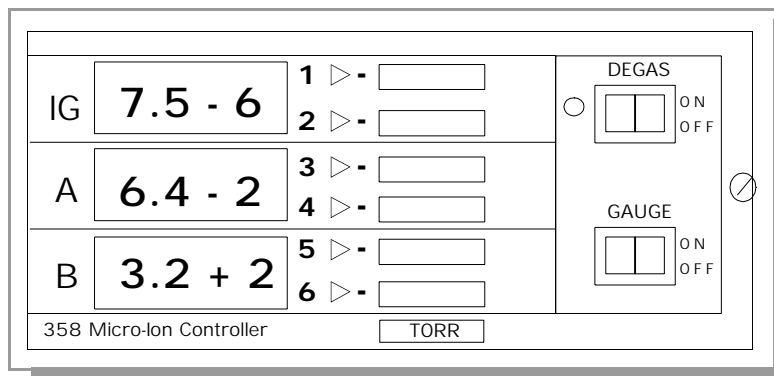

Figure 5-2 358 Controller Front Panel.
2. When the power switch is ON, the Micro-Ion Gauge pressure is displayed on line IG and Convectron Gauge pressures are displayed on lines A and B of the display on the front panel of the Controller (see Figure 5-2). Display formats for the Convectron Gauge pressures are given in Table 5-1 on page 5-2.
4. For manual operation, press the front panel GAUGE momentary rocker switch (see Figure 5-2 on page 5-1). The pressure in Micro-Ion Gauge will be displayed on the IG line of the display in the chosen pressure units.
5. To degas the IG (IG must be on and the pressure within IG must be below 5×10^{-5} Torr), depress the DEGAS momentary rocker switch on the Controller (see Figure 5-2 on page 5-1).
6. When the filament is nearing the end of its useful lifetime or is badly contaminated, the LED indicator next to the DEGAS switch on the front panel will blink during degassing (see Figure 5-2 on page 5-1). This is an indication that the filament emission properties have deteriorated. This may be due to contamination which has temporarily “poisoned” the filament coating, or to long term permanent erosion of the coating.
To turn on the Micro-Ion Gauge from the front panel, press the GAUGE momentary rocker switch (see Figure 5-2). To turn it OFF, press the GAUGE rocker switch again. After a 3-second delay, the Micro-Ion Gauge pressure will be displayed.
The EB (electron bombardment) degas may be turned on or off by the front panel DEGAS “momentary” rocker switch, (see Figure 5-2), or the remote input. To turn degas on, press the DEGAS momentary rocker switch. To turn it off, press the DEGAS momentary rocker switch again, or press the GAUGE momentary rocker switch to turn off DEGAS and turn on the gauge. Degas automatically turns off and returns to normal emission in 2 minutes.
Degas “ON” indication is by the degas LED adjacent to the DEGAS rocker switch on the front panel (see Figure 5-2). Degas cannot be activated unless the Micro-Ion Gauge has been turned ON and indicated system pressure is below 5×10^{-5} Torr. This prevents degas turn-on at pressures where emission can not be established or where degas is of no practical use. Micro-Ion Gauge pressure measurement is displayed during degas.